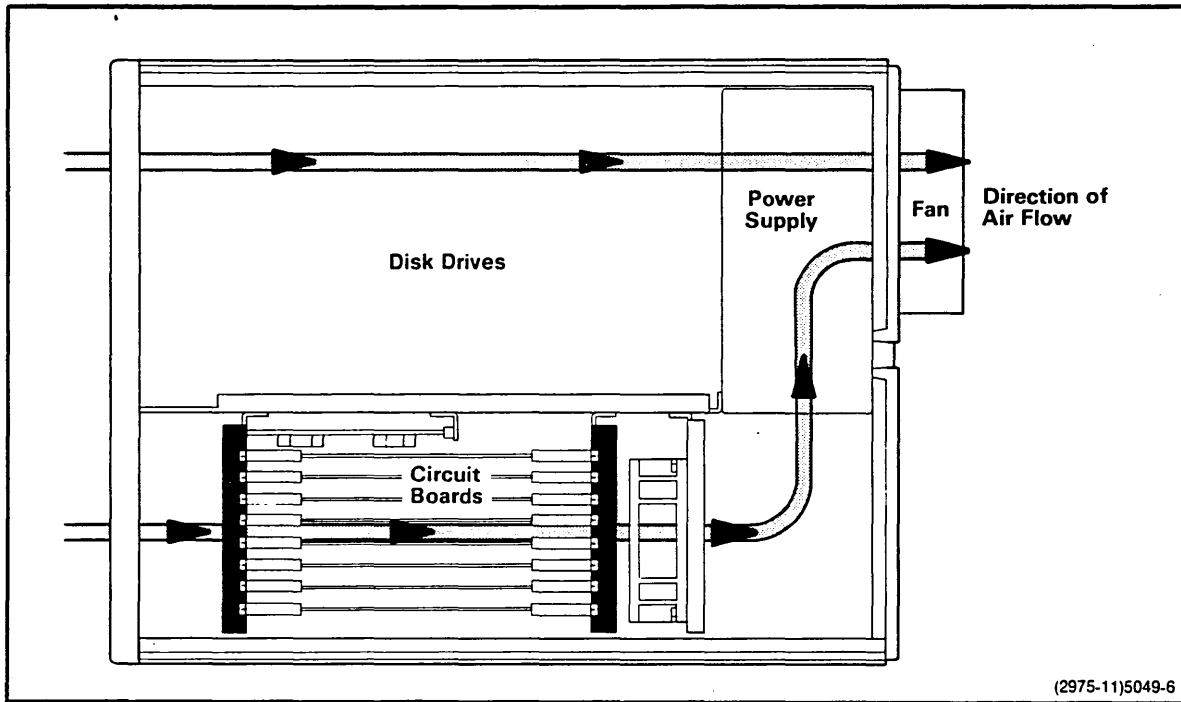

Fig. 5-2. Air flow through the 8560 MUSDU.
- Allow adequate clearance for ventilation. See Fig. 5-2.